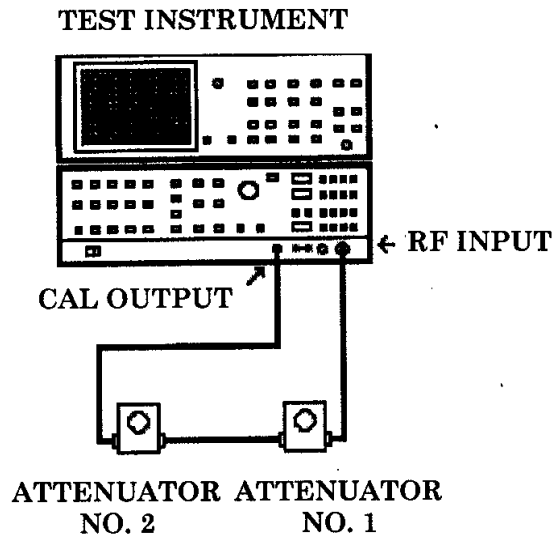

Figure 16. Attenuator connection.
- (59) Multimeter should indicate between 8.5 and 11.0 V dc. If measurement is out of tolerance, adjust A4A5R2 for a multimeter indication of  $9.5 \pm 0.1$  V dc (R).
- (60) Connect equipment as shown in figure 16 below.